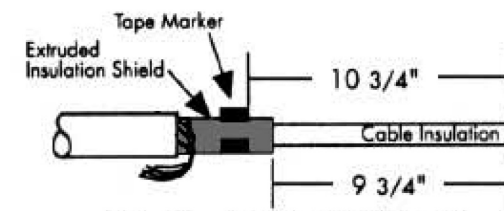

Fig. 4 - Shield Cutback
C. Apply two layers of PVC onto the insulation shield 10-3/4" back from the end of the cable. This will serve as a temporary marker for locating the cable adapter. (See Figure 4.)